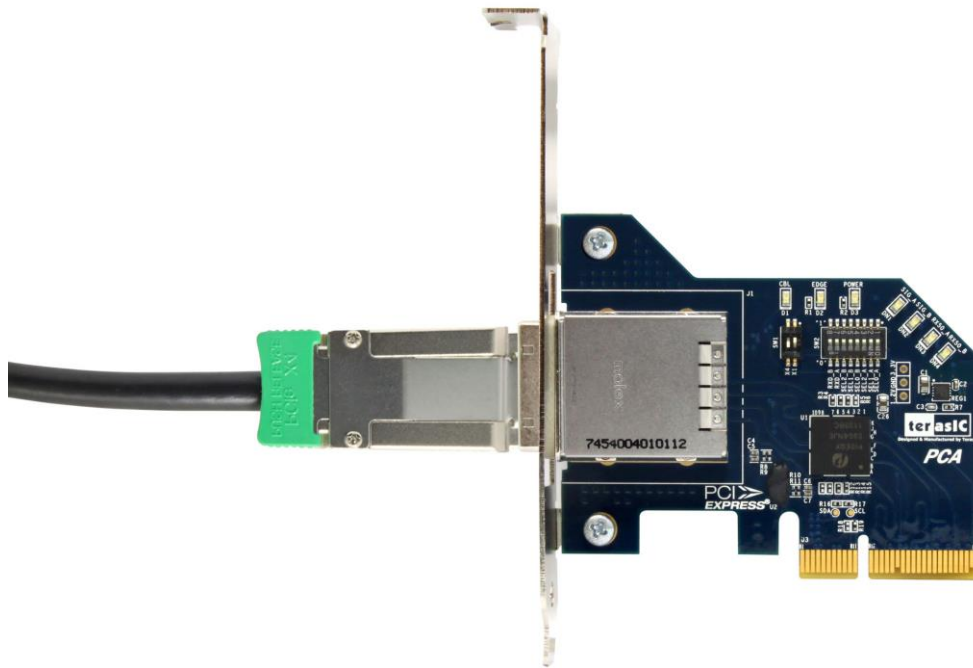

Figure 3-4 PCIe Cable and PCA connector Connected
**Figure 3-4** as show the PCIe Cable connects PCA connector